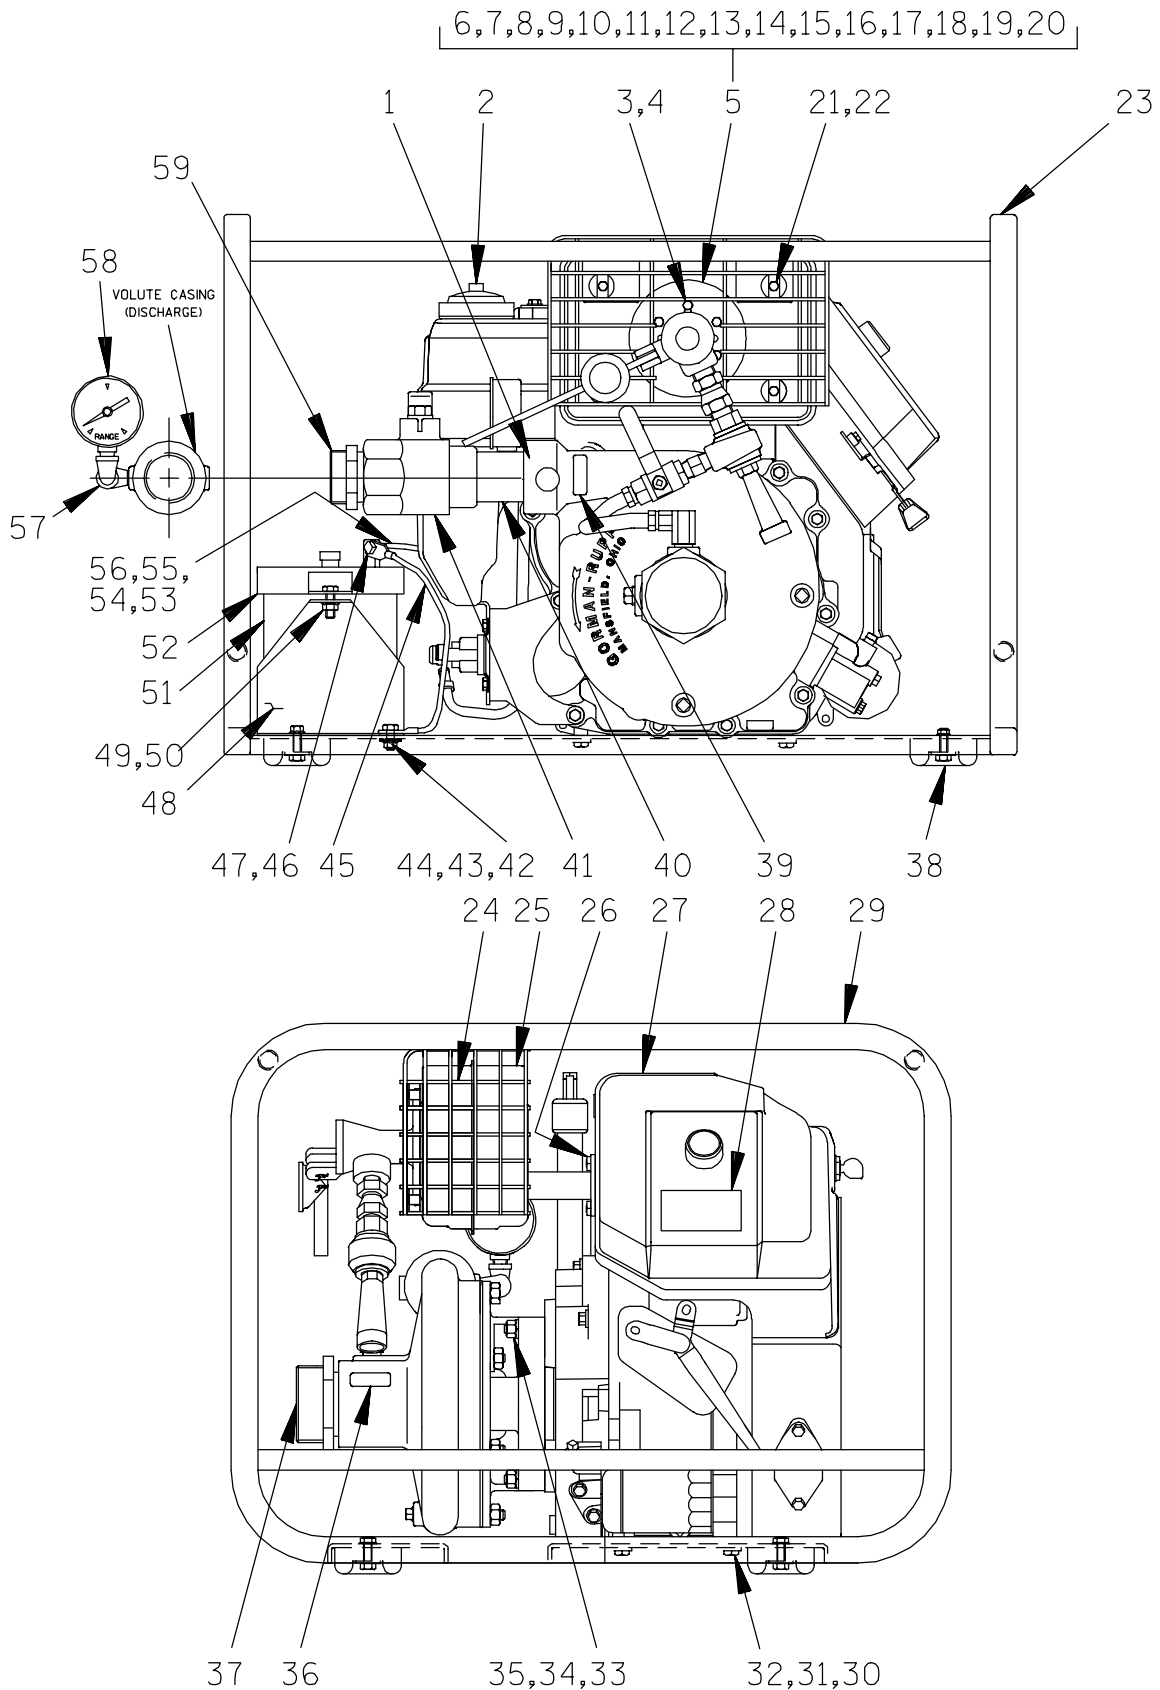

Figure 2. Pump Model 61 1/2A1-CH13 S/G
An alternate method of removing the stationary seat is to remove the hardware (34 and 35, Figure 1 or Figure 2) and separate the intermediate (6) from the engine. Use a dowel to press the stationary seat and O-ring from the intermediate.